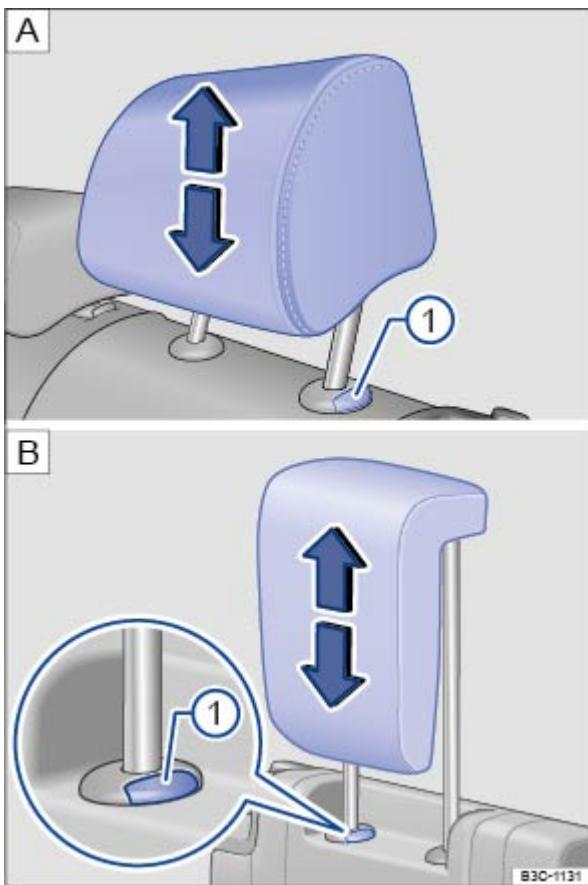

Fig. 81 Adjusting the rear head restraints: second row, third row.
- To lower the headrest, first push the headrest down as far as it will go. Then push the button \Rightarrow Fig. 81① and push the head restraint down completely.